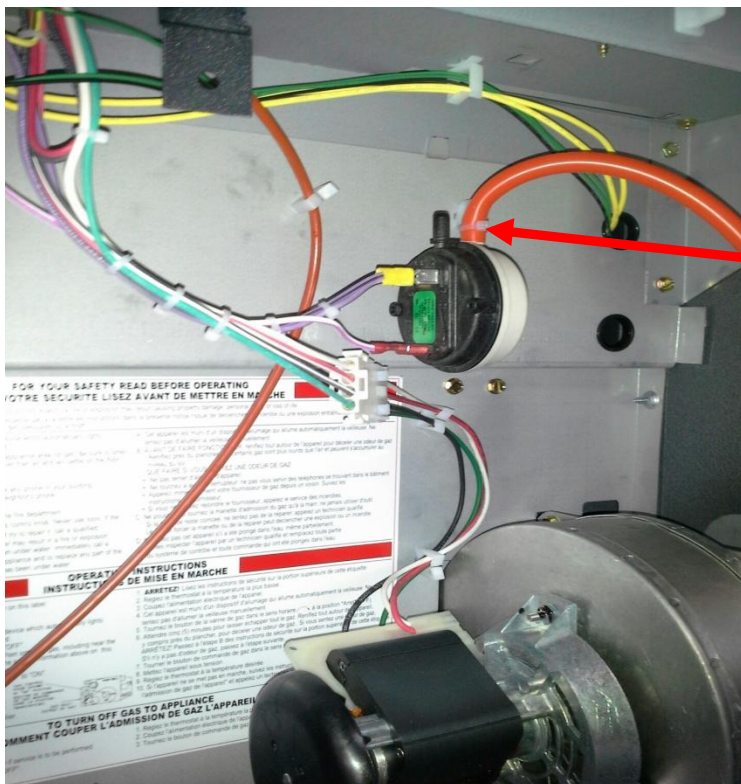

Figure 5
15. Install tie wrap around air hose at base of hose fitting and pull tight. Cut away excess. (See **Figure 5**)